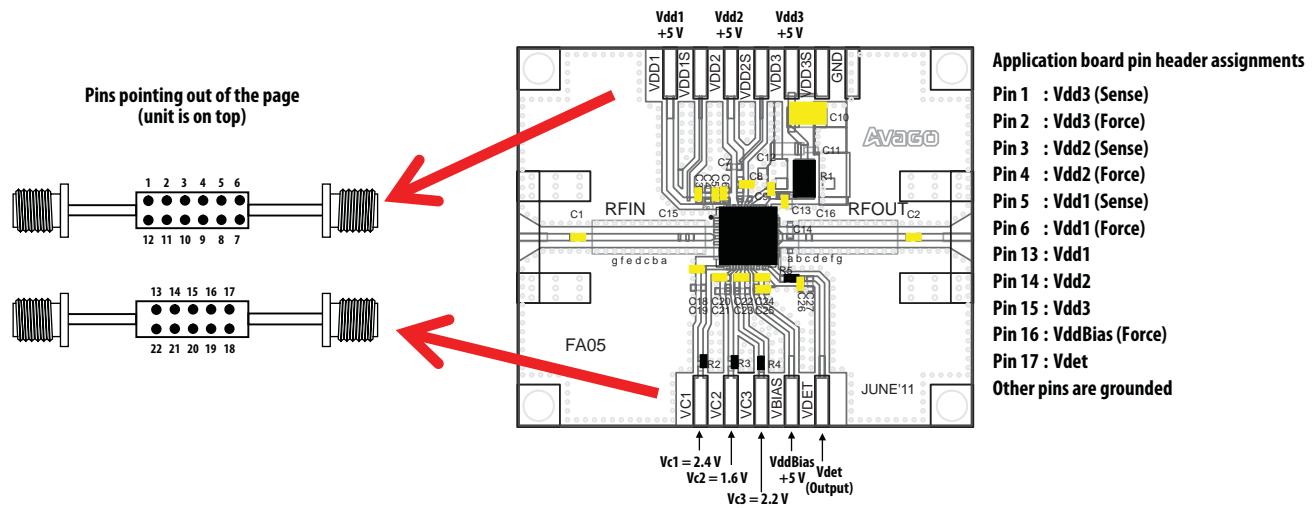

Figure 30. Demonstration board application circuit for MGA-43628 module
3. $I_{dq1} = 60.0 \text{ mA}$, $I_{dq2} = 110 \text{ mA}$, $I_{dq3} = 270.0 \text{ mA}$, $I_{VddBias} = 14.0 \text{ mA}$. $I_{dq1/2/3}$ are adjusted by voltages to CMOS-compatible control pins Vc1/2/3 respectively. These typical bias currents were obtained with Vc1/2/3 voltages in Figure 30 above. Adjustment of these currents enable optimum bias conditions to be achieved for best linearity and efficiency for a given modulation type